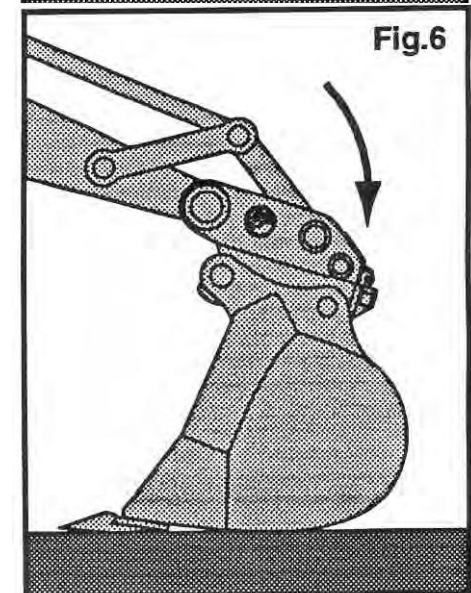

Fig. 6
5. Rotate the Quick-Latch and seat the rear of the latch over the rear attachment pin. Be absolutely sure the Quick-Latch is seated on the pin. Leave the attachment on the ground until secured (See Fig. 6).
6. Secure the attachment. Method: On the rear of the Quick-Latch, tighten the swing latch nut that has the retainer horseshoe. Then, tighten the nut that does not have a retainer horseshoe. Torque nuts per the specifications on page 8, daily maintenance, item 2. Torque the nuts more for vibratory compactor and hydraulic hammer type of attachment applications. Do not exceed the maximum torques listed on page 8.